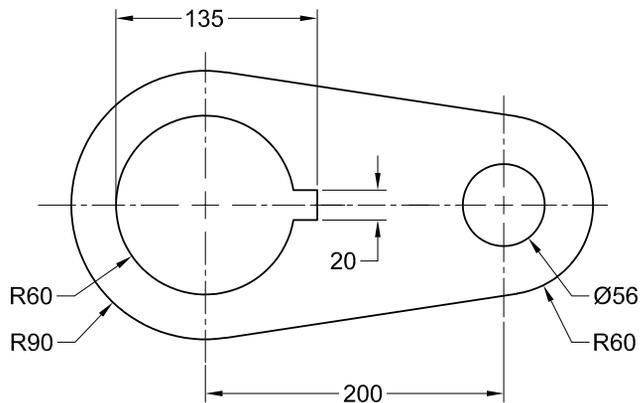

Figure 3-30 Sketch for Tutorial 1
In this tutorial, you will import an existing sketch that you had drawn in Tutorial 3 of Chapter 2. After placing the sketch, draw the keyway, as shown in Figure 3-30.
4. Modify all dimensions. Refer to Figure 3-30 for dimension values.